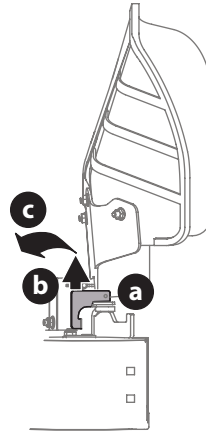

Figure 15
- The chute is shipped attached and with a stop bracket holding the chute upright. The stop bracket must be removed prior to operating the tractor (Figure 15).
- Holding the chute deflector fully upward, remove the stop bracket (Figure 15):